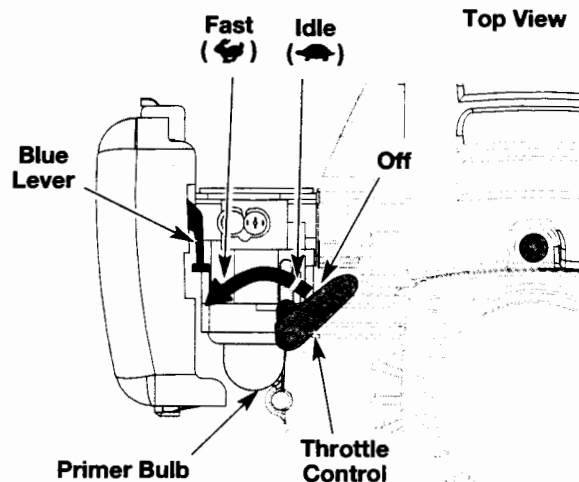
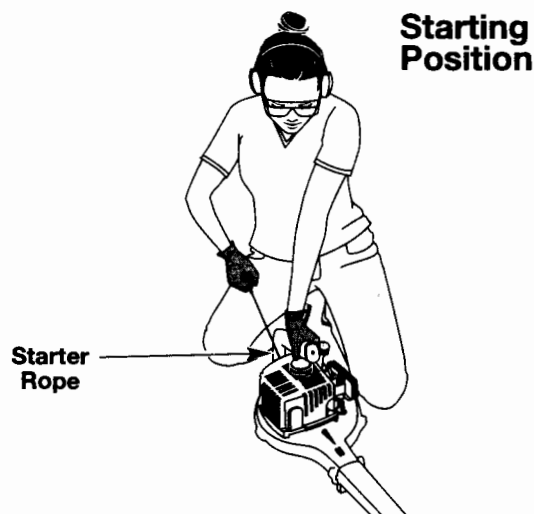

Fig. 2
Fig. 4
WARNING: Avoid accidental starting. Make sure you are in the starting position when pulling the starter rope (Fig. 4). To avoid serious injury, the operator and unit must be in a stable position while starting.
2. Fully press and release the primer bulb 10 times, slowly. Some amount of **fuel should be visible in the primer bulb** (Fig. 2) and fuel lines. If you can't see fuel in the bulb, press and release the bulb as many times as it takes before you can see fuel in it.
4. Place the unit in the starting position (Fig. 4). Move the throttle control to the fast position (←) (Fig. 2).
1. To turn off the blower, move the throttle control lever all the way to the right, past the idle position (→) until it clicks. Make sure you move the lever into the furthest right detent in order to turn the unit off (Fig. 2).